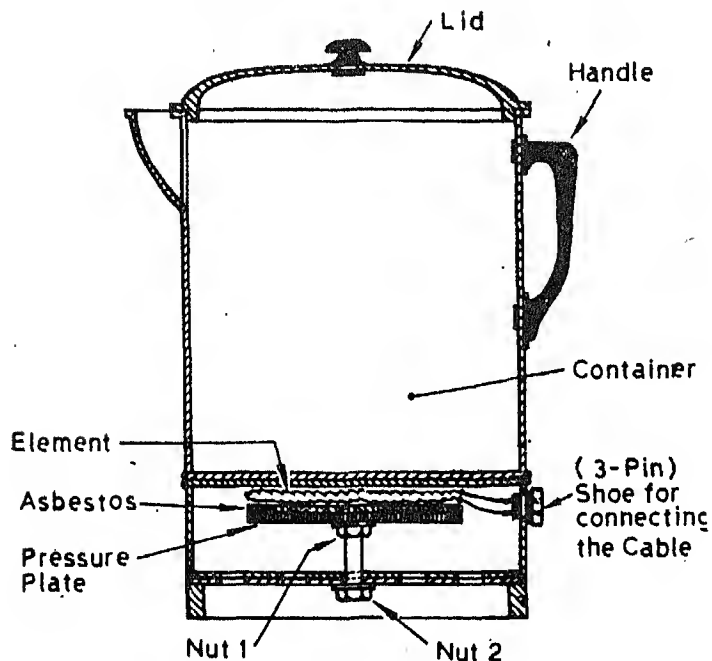

Fig. 18.1 Electric Kettle (Sauce Pan type)
(Fig. 18.1). Take out the lower cover after disconnecting the element from the 3-pin socket.
- (iii) Keep the pressure plate over the asbestos sheet and tighten nut No. 2 (Fig. 18.1).
- (v) Keep the lower cover properly over the container and fix the nut No. 1 (Fig. 18.1). Now the kettle is assembled.